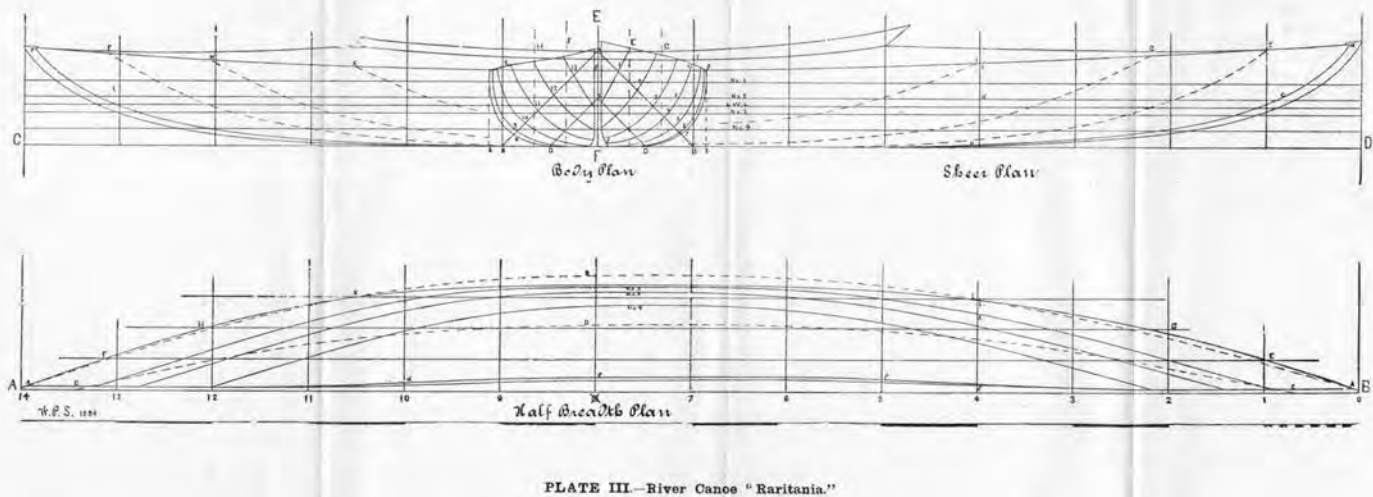

Figure 4. Lines for Raritania, designed by W.P. Stephens in 1882.
*Raritania* (Figure 4) was Stephens's attempt to improve on the Rob Roy-type canoe. Rob Roys were very popular in the 1880s, and many builders built canoes to MacGregor's design, often incorporating their own ideas for improvement. Rushton's American Traveling Canoe and the Ontario Canoe Company's Juniper model canoes